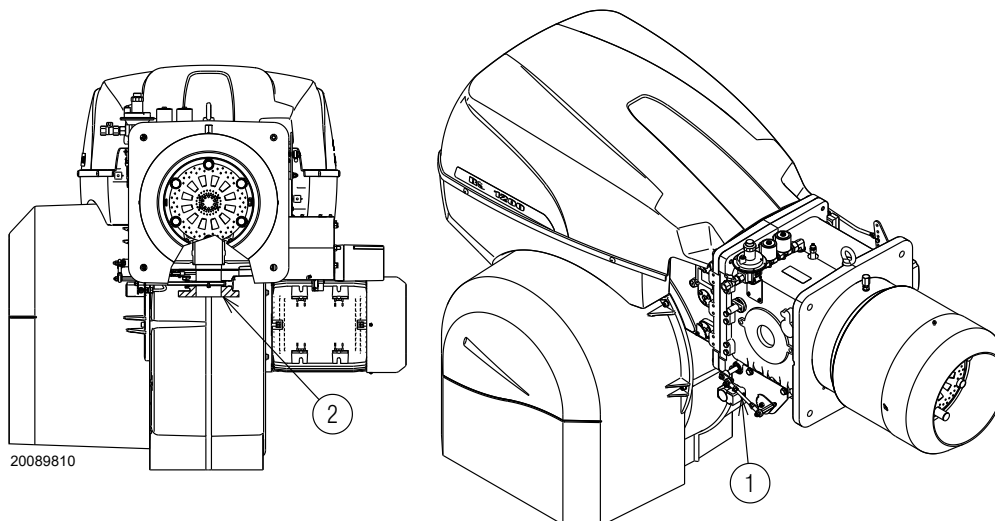

Fig. 21
Gas pressure measured at the test point 1)(Fig. 21 on page 21), with:
Pressure loss at gas butterfly valve 2)(Fig. 21 on page 21) with maximum opening: 90°.
- Subtract the combustion chamber pressure from the gas pressure measured at test point 1)(Fig. 21 on page 21).
Gas pressure at test point 1) (Fig. 21) = 41.9 mbar
To calculate the required gas pressure at test point 1)(Fig. 21), set the maximum modulating output required from the burner operation:
- Read, on the right (column 1), the pressure at the test point 1)(Fig. 21).
Pressure required at test point 1)(Fig. 21).